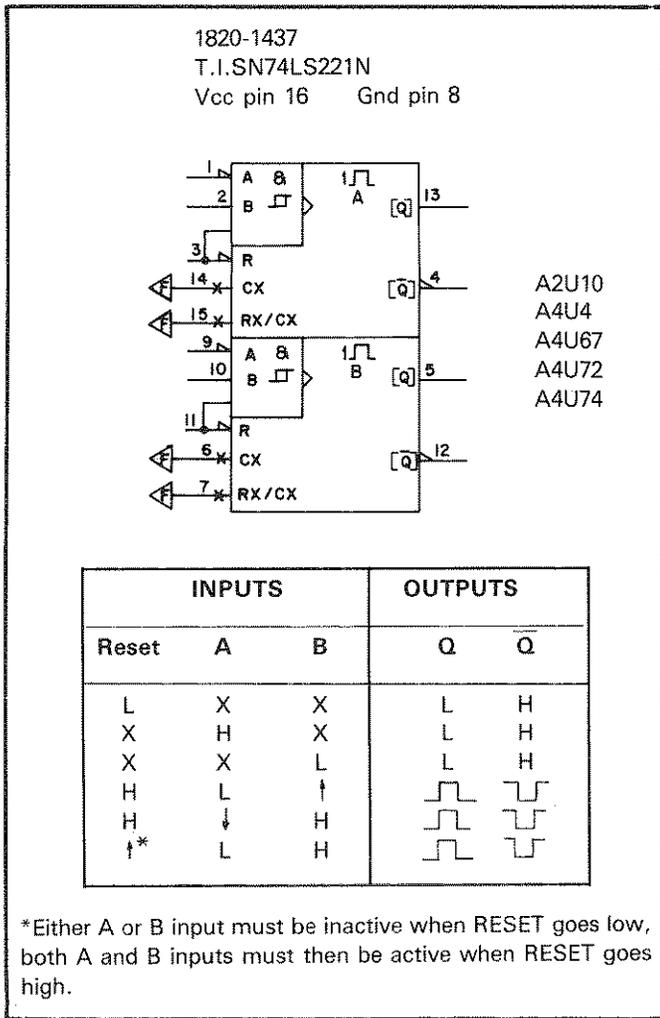

Figure B-23. Monstable Multivibrator
**Monostable (One-Shot) Multivibrator.** The one-shot multivibrator, when triggered, produces a pulse whose length is determined by an external RC circuit. The one-shot in Figure B-23 can be triggered by a negative-going transition at input A when both input B and reset are high or by a positive-going transition at input B when input A is low and reset is high. This device can also be triggered by a positive-going transition at reset. The external timing components are connected to the RX and RX/CX inputs.